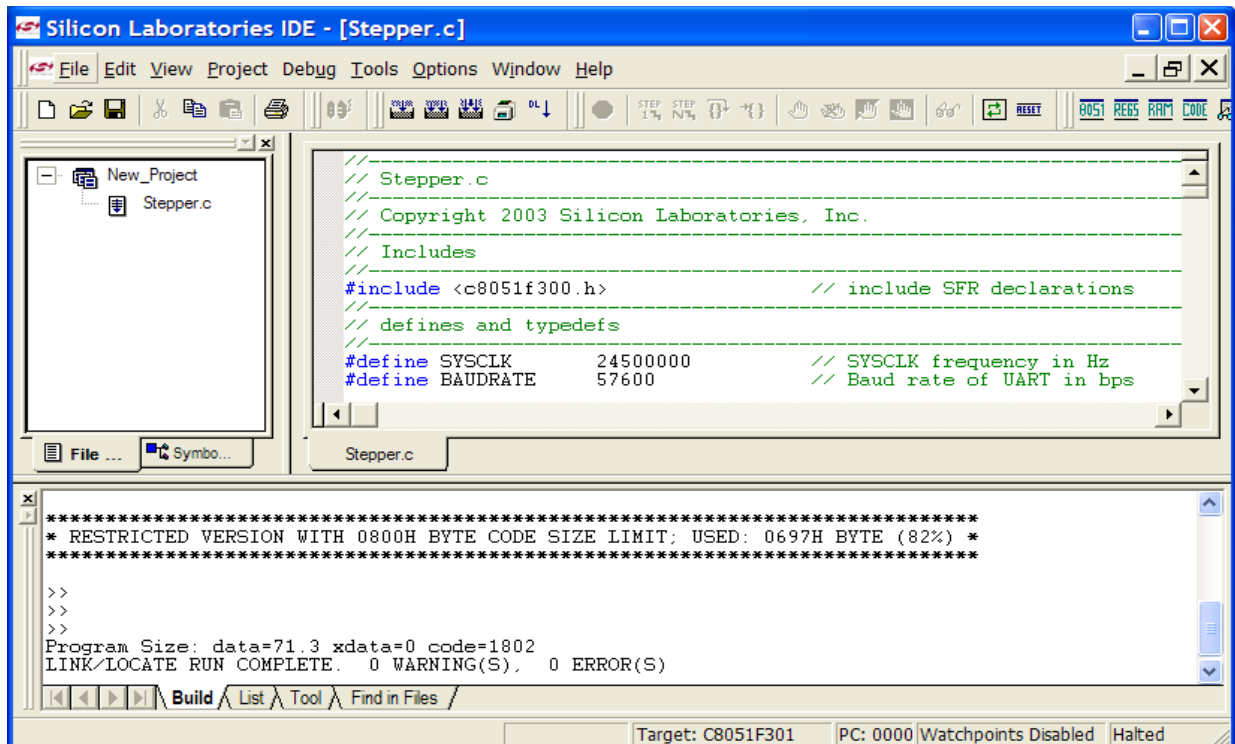

Figure 8. Stepper Motor Project
5. Select "Rebuild All" from the project menu or click on the "Rebuild All" button. (The IDE will compile and link the `stepper.c` file as shown in Figure 8.)